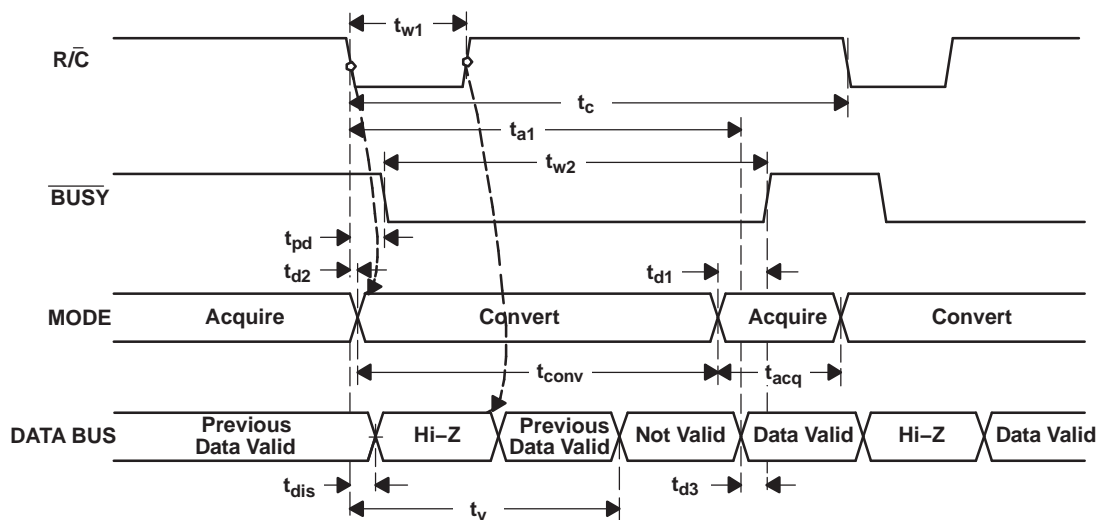

Figure 21. Conversion Timing with Outputs Enabled after Conversion ( $\overline{CS}$  Tied Low)
The ADS8515 begins tracking the input signal at the end of the conversion. Allowing 4  $\mu$ s between convert commands assures accurate acquisition of a new signal. Refer to Table 1 for a summary of  $\overline{CS}$ ,  $R/\overline{C}$ , and  $BUSY$  states and Figure 21, Figure 22, and Figure 23 for the timing diagrams.
(1) See Figure 21 and Figure 22 for constraints on data valid from conversion  $n-1$ .
After conversion  $n$  is completed and the output registers have been updated,  $\overline{BUSY}$  (pin 26) goes high. Valid data from conversion  $n$  is available on D15-D0 (pins 6-13 and 15-22).  $\overline{BUSY}$  going high can be used to latch the data. Refer to Table 3 and Figure 21, Figure 22, and Figure 23 for timing specifications.
After conversion  $n$  has been initiated, valid data from conversion  $-1$  can be read and is valid up to  $t_2$  after the start of conversion  $n$ . Do not attempt to read data from  $t_2$  after the start of conversion  $n$  until  $\overline{BUSY}$  (pin 26) goes high; this may result in reading invalid data. Refer to Table 3 and Figure 21, Figure 22, and Figure 23 for timing specifications.
The number of control lines can be reduced by tying  $\overline{CS}$  low while using the falling edge of  $\overline{R/\overline{C}}$  to initiate conversions and the rising edge of  $\overline{R/\overline{C}}$  to activate the output mode of the converter. See Figure 21.